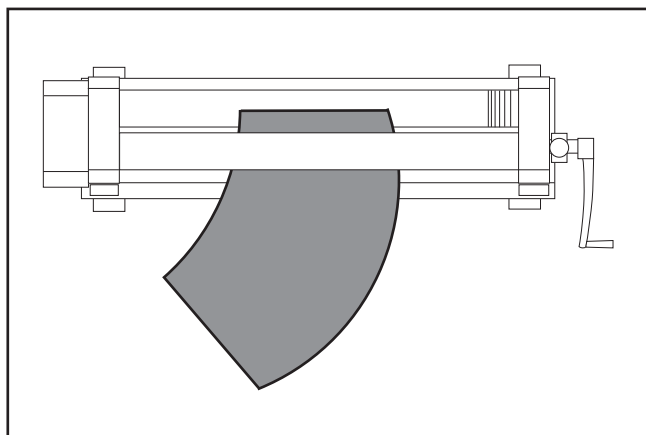

Figure 52. Workpiece fed so edge is over rear roller.
15. Turn crank handle clockwise to feed workpiece until front edge of workpiece is directly over rear roller (see **Figure 52**).